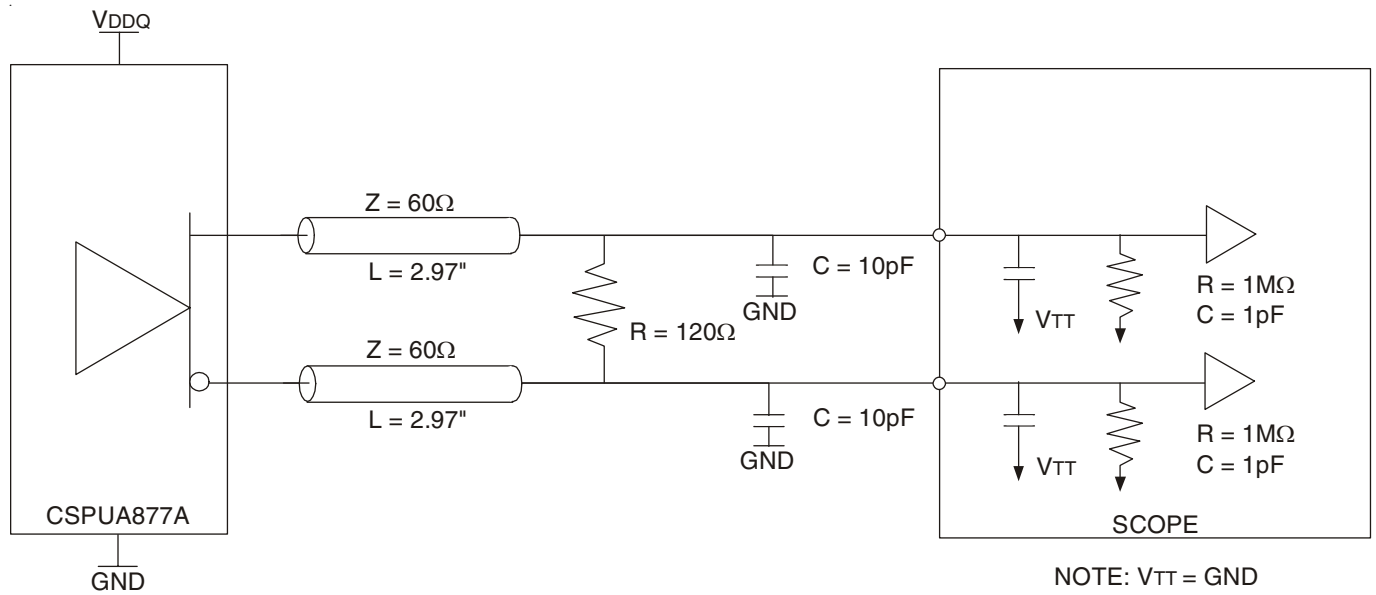

Figure 1: Output Load Test Circuit 1
- There are two different terminations that are used with the above AC tests. The output load shown in figure 1 is used to measure the input and output differential pair cross-voltage only. The output load shown in figure 2 is used to measure all other tests, including input and output slew rates. For consistency, use 50 Ω equal length cables with SMA connectors on the test board.
- In the frequency range of 271 - 410MHz, the min and max values for t_{JIT(PER)} and t_{(\emptyset)DYN}, and the max value for tsk(O), must not exceed the corresponding min and max values of the 160 - 270MHz range. Also, the sum of the specified values for | t_{JIT(PER)} |, | t_{(\emptyset)DYN} |, and tsk(O) must meet the requirement for Σt (SU), and the sum of the specified values for | t_{(\emptyset)DYN} | and tsk(O) must meet the requirement for Σt (H).